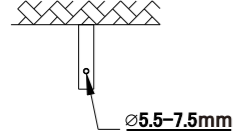
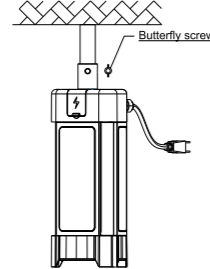
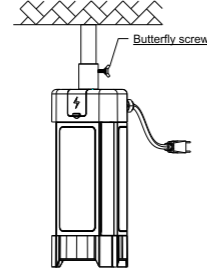

Figure 6
Figure 7
Figure 8
2. Insert the fixture into a round pipe with diameter 20-25mm, the round pole must have a hole with diameter 5.5-7.5mm(Figure6), and then tighten butterfly screw(Figure7)(Figure8), please make sure the butterfly screw was completely inserted into the hole on the round pole!